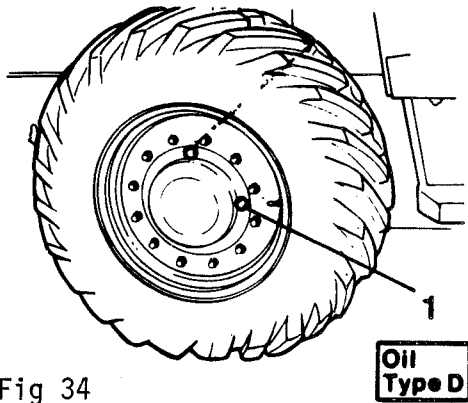

Fig 34
- 4 Drive the roller so that the level plug is positioned according to the figure 34.